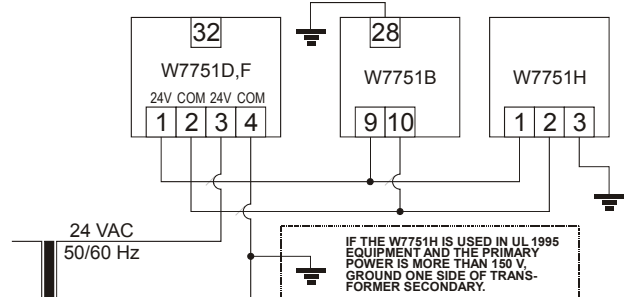

Fig. 15. Power wiring for multiple controllers
- Do *not* connect the analog ground (terminal 5) to the earth ground. See Fig. 15.
- Controller wiring: Be sure that each W7751H is wired (terminal 3 on the W7751H) to a verified earth ground using a wire run as short as possible with the heaviest gauge wire available, up to 2.0 mm² with a minimum of 1.0 mm² for each controller in the group. See Fig. 15.